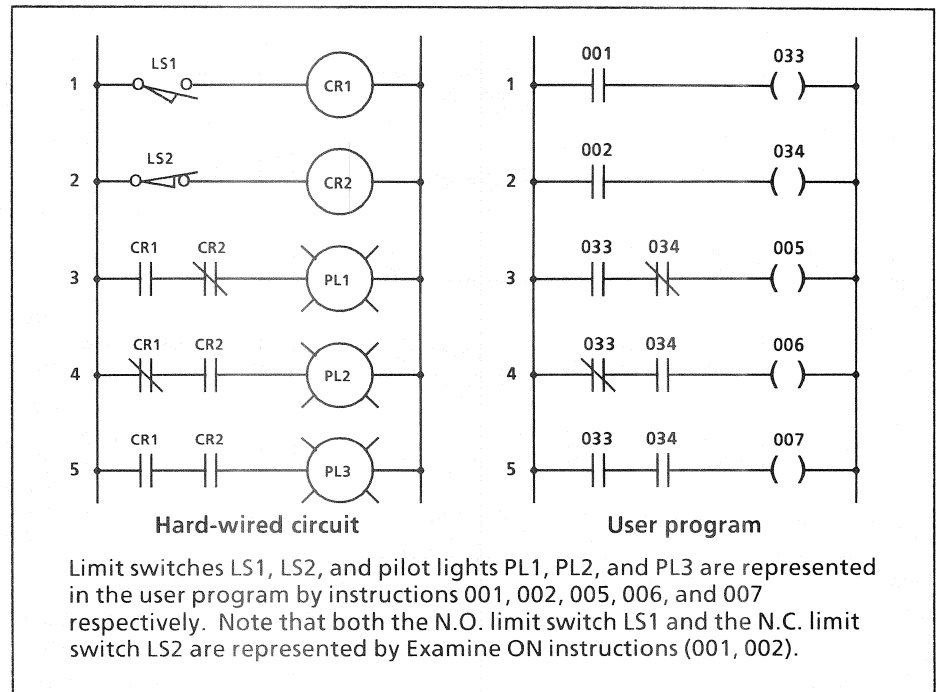

Figure 3.17.
3.4.1 Examine ON, Examine OFF, Output Energize – These instructions were already explained (paragraphs 3.1.5, 3.1.6). A simple program using them is shown in Figure 3.17. This figure shows a hard-wired circuit and a user program (not the only one possible) which provides the same results.